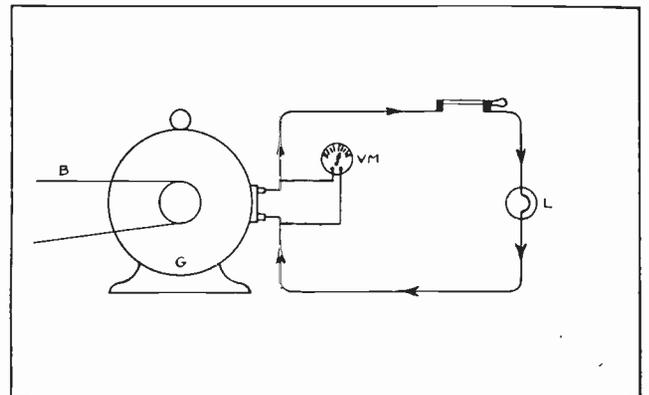

Fig. 2. Dynamo supplying electric pressure to force current to flow through the wires and lamp. No current will flow without a source of pressure or voltage.
In Fig. 2 an electric generator or dynamo (G) is shown producing electrical pressure to force current to flow through the wires to operate the lamp (L).